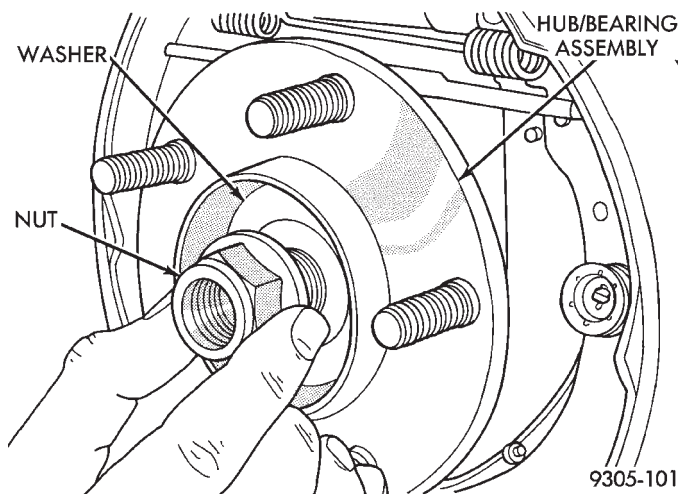

Fig. 20 Rear Hub And Bearing Retaining Nut and Washer Removal
(8) Install the rear hub and bearing assembly on the rear spindle. Install hub and bearing assembly retaining washer and nut on spindle (Fig. 20). Torque hub and bearing retaining nut to 168 N•m (124 ft. lbs.).